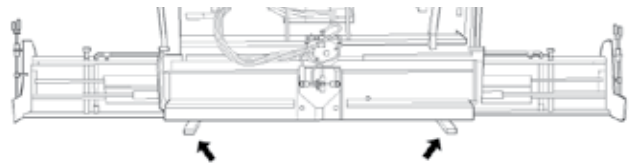

Figure 4-10. Starter Blocks
3. To set depth, place screed on starter blocks (**Figure 4-10**).